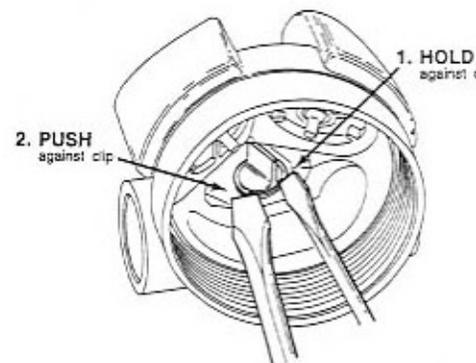
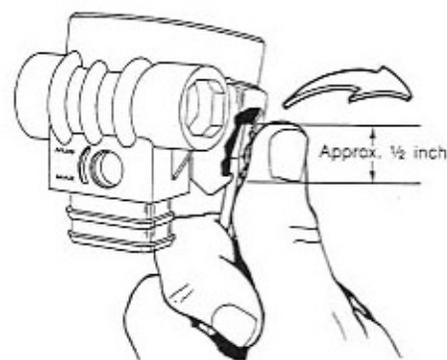
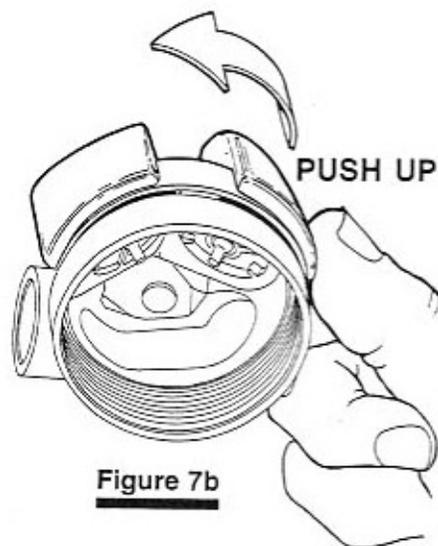

Figure 6
Figure 7a
Figure 7b
15. Remove and discard the crown O-ring (item 7).
16. To remove the mouthpiece (item 19) snip the plastic mouthpiece clamp (item 30) with pliers, or, with care, wire cutters. Discard the mouthpiece clamp. Next, pull on one side of the mouthpiece and peel it off the box bottom (item 3).
17. To remove the vane adjustment switch assembly (item 2), place the switch in the max position. Place the box bottom (item 3) on the work bench as shown in figure 6. While looking through the diaphragm side of the box bottom, locate the open-end of the "C"-clip (item 4). *NOTE: The "C" clip may need to be rotated so that its open end is visible from the diaphragm side of the box bottom. An 1/8-inch flat blade screwdriver may be used to help rotate the clip.* With the "C" clip properly oriented, place the blade of the 1/8-inch screwdriver up against the right end of the "C"-clip closest to the side of the air outlet boss of the box bottom (see figure 6). Next, while still holding the 1/8-inch screwdriver blade against the clip, place a medium flat blade screwdriver against the left end of the "C"-clip and push the clip free from the vane adjustment switch with the medium screwdriver blade (figure 6).
18. Pull the vane adjustment switch (item 2) from the outside of the air outlet boss of the box bottom (item 3) and remove it. Remove and discard the O-ring (item 1).
19. To remove the exhaust cover (item 18), place the medium flat blade screwdriver approximately 1/2 inch into the exhaust cover (see figure 7a). Then gently rotate the screwdriver blade clockwise and pop loose one corner of the exhaust cover (see figure 7a). Once you have popped loose the corner of the exhaust cover, use your fingers to gently push the exhaust cover off the box bottom, starting with the corner you just popped loose, and working it around to the opposite side (figure 7b).
20. Remove and discard the two exhaust valves (item 17).